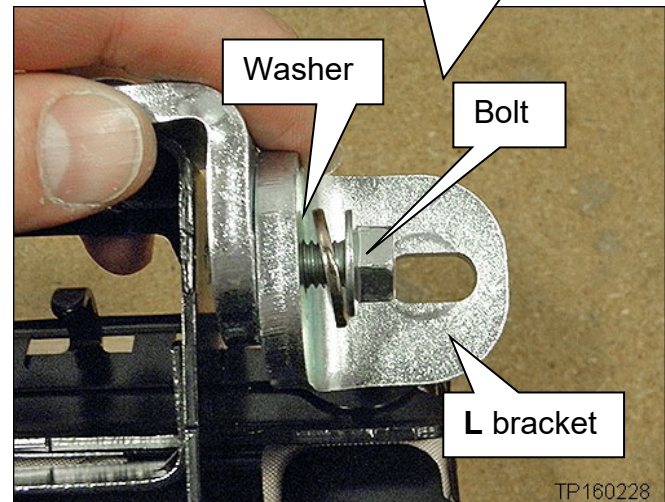

Figure 13
18. Put a washer between the bolt and L bracket (on the right side as viewed in Figure 13).